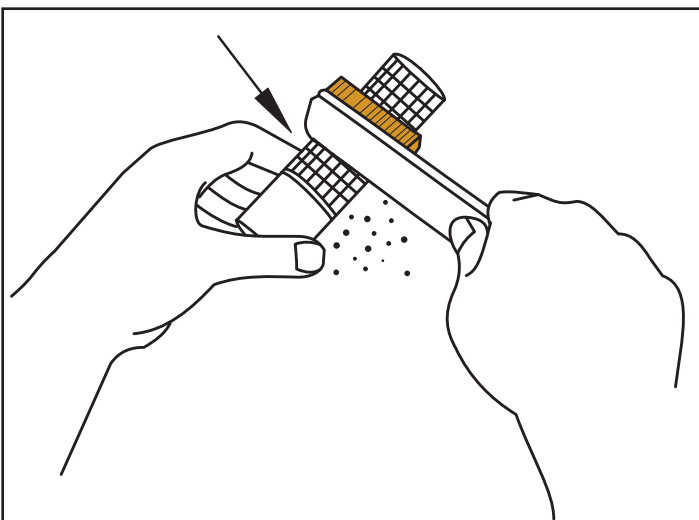

Figure 4-11: Cleaning Spark Arrester
2. Remove the two (2) screws attached to the fixed cover plate, which connects to the end of the spark arrester and affixes it to the muffler,
4. Use a wire brush to carefully remove carbon deposits from the spark arrester screen. (See **Figure 4-11: Clean Spark Arrester**.)
6. Install the spark arrester on the muffler and re-attach with the two (2) screws.